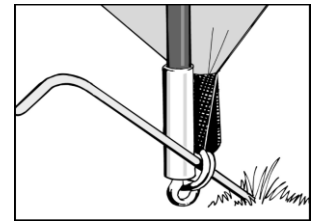

Figure 2.
- Secure the tent using the pin pegs through the ring & pin system (See fig 2).
2. Peg the corners of the tent through the metal rings using pin-pegs. It is important to drive the peg into the ground at a 45 degree angle to obtain the best grip. (See Figure 2).